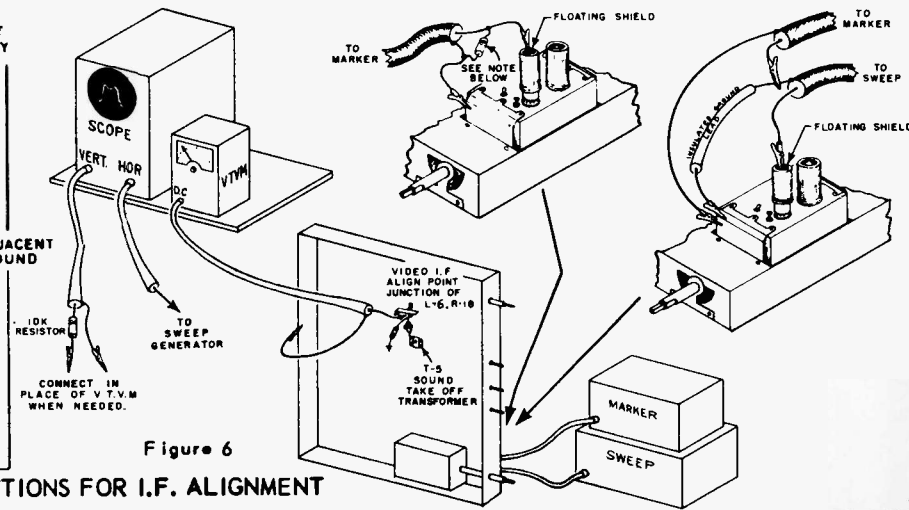

Figure 6
- 4) Connect terminated marker generator to floating shield of converter tube V-16. (Shield raised slightly to that it does not make contact with chassis). Use unmodulated marker. See Fig. 6.
- 5) Connect vertical input of an oscilloscope instead of V.T.V.M. to video I.F. Align. Point with vertical scope gain set at, or near, maximum. (Horizontal scope sweep set at 400 cycles). See Fig. 6.